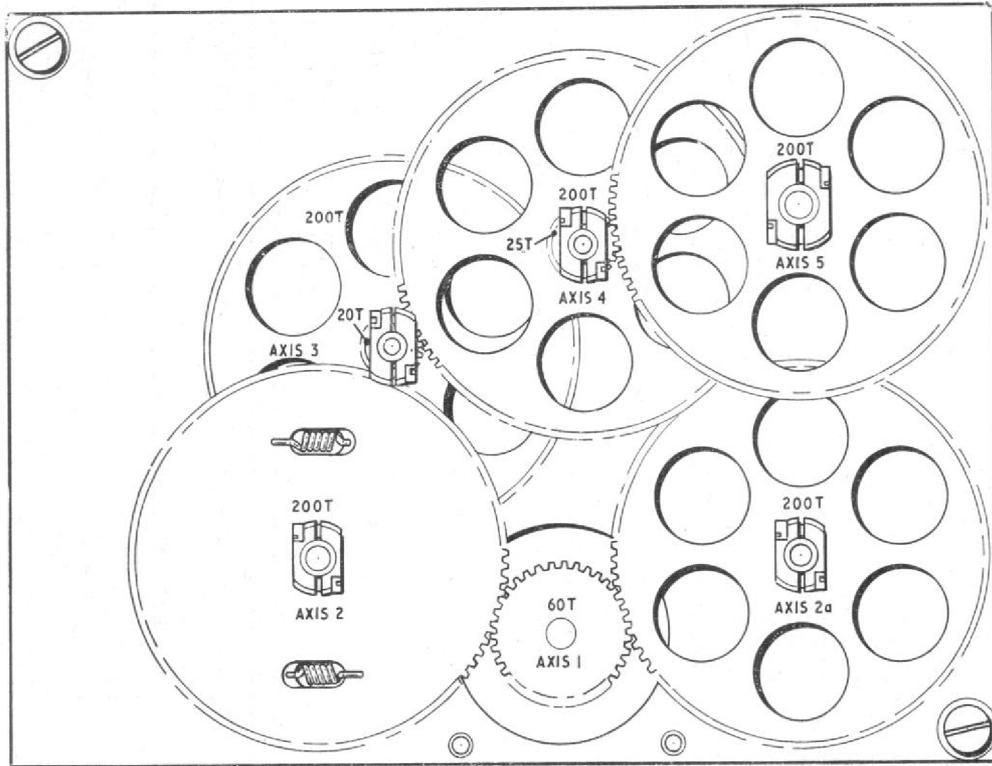

Fig. 8. Rate of climb gearbox (G2)—underside (pre-mod. ADS/80)
32. Connect the wander lead to pin 27 of the gearbox tagboard, set T4 on test set, Type 9B to 4430, set the dividing box to 0025 and check that the valve voltmeter registers a null. If necessary release the screws clamping RV11 (Chap. 7, fig. 8) and rotate RV11 to obtain this null. Reclamp RV11, ensuring that the meter remains at the null whilst doing so.
70. Switch the meter to the 100V range and rotate the 200T gear of axis 2a (fig. 8) clockwise by hand to increase the meter reading to 40V. To achieve this it should not be necessary for the 60T pinion of axis 1 meshing with the 200T gear of axis 2a to rotate more than 2 revolutions. Allow the servo unit to return to the null and with a soft pencil mark the position of the 200T gear of axis 2a.